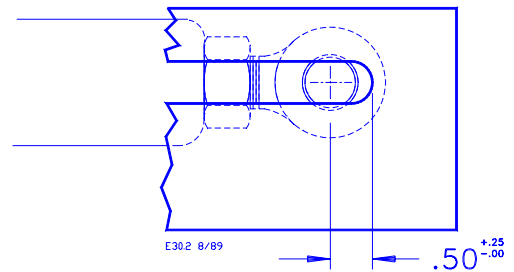

Figure 7. Linear Actuator Adjustment Procedure (side view)
3. ADJUST Inner Tube by turning counter-clockwise until mounting hole is .50 inches (13 mm) from end of track. See Figure 7.